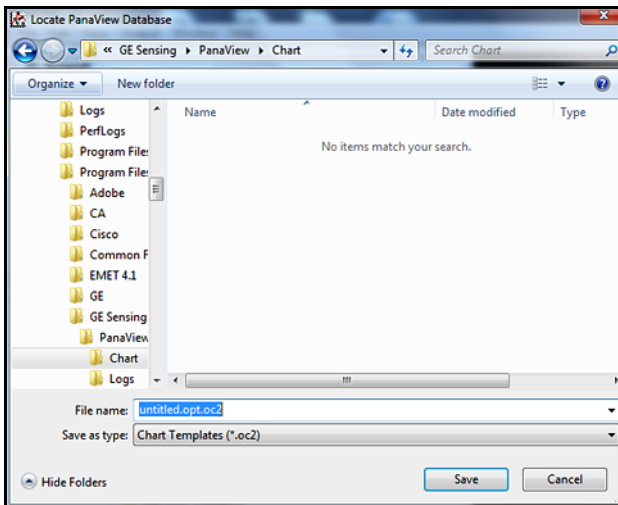

Figure 58: The Save Chart Style Dialog Box
- Click on the “Save Chart Style” option to save only the current graph properties (and not the parameters to be graphed) as a template for future graphs. When the dialog box in *Figure 58* below opens, enter a name for the chart (graph) template file and click the [Save] button to save the file as: